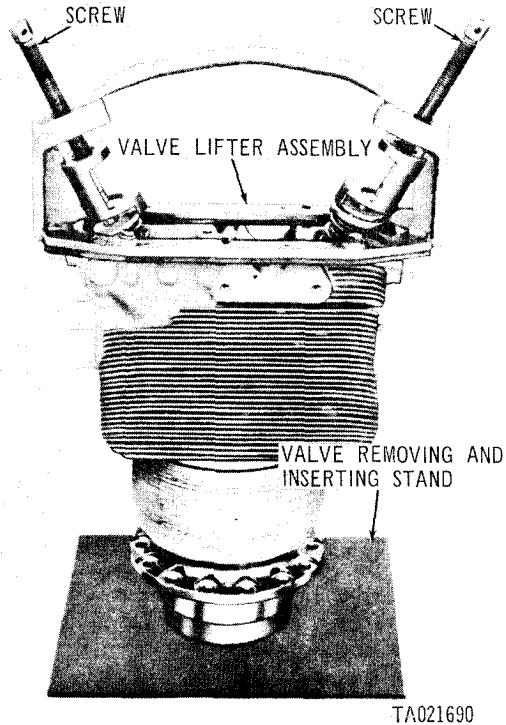

Figure 3-200. Compressing valve springs using valve lifter assembly.
(2) Install the exhaust valve rotor (87, fig. 3-186) outer, intermediate and inner springs (8, 9, and 10), and exhaust valve spring upper retainer (28) over the exhaust valve stem as shown in figure 3-188. Install the lower intake valve spring seat (7) outer, intermediate and inner spring (8, 9, and 10), and upper intake valve spring retainer (11) over the intake stem in the same manner. Compress valve springs and install valve locks following instructions which accompany figure 3-200.